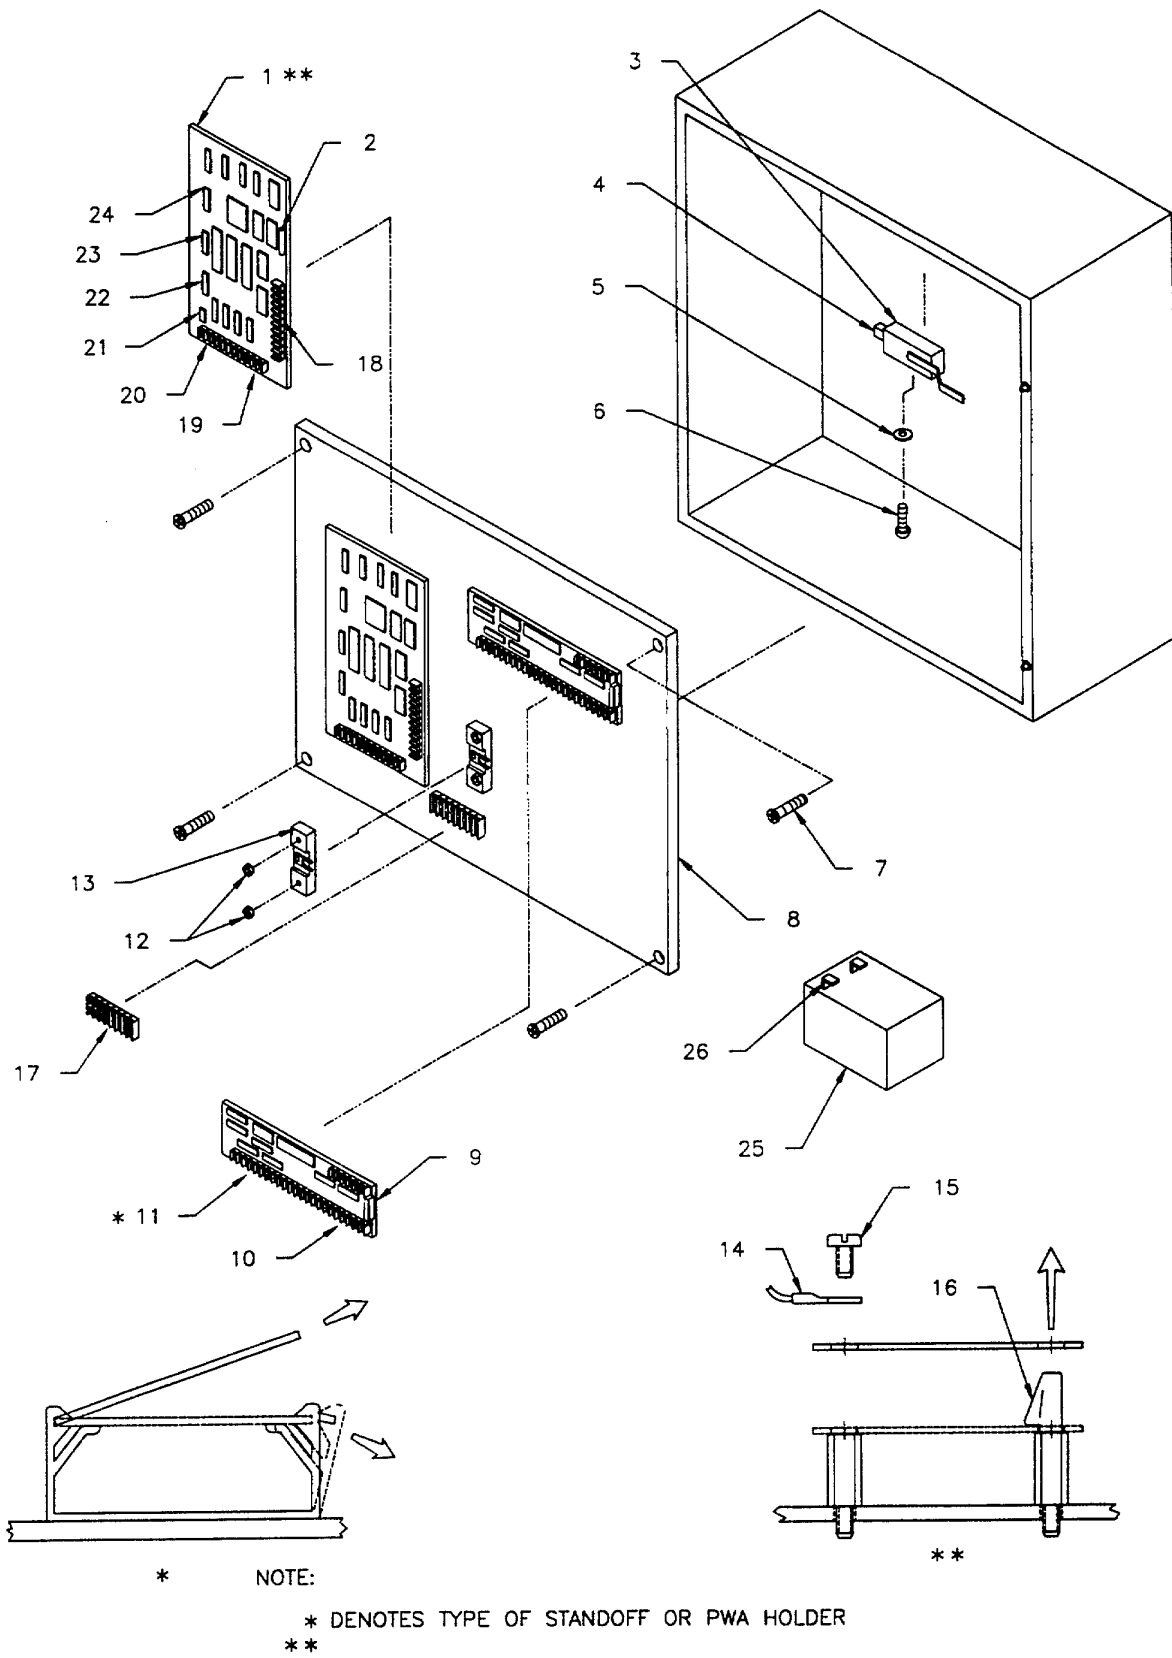

Figure 3-40. Removal and Replacement RADC, 12 VDC, 8 Points, Interior Assemblies
- (1) Set the Link Setting and/or Switch Setting exactly the same as removed assembly or refer to Appendix E, page E-52, PWA settings.
- (2) Press out on sides of snap track PWA holder (e) and install Mod 2 Modem (9) in snap track alignment slots and release.
- (3) Connect the tagged wires to J1 (11) and J2 (10).
- (4) Connect AC adapter to power source.
- (5) Connect the black wire slip-on terminal lug to 12 vdc battery (25).
- (6) Place front access cover on enclosure and secure.
**3-59. REPLACE 18 VAC ADAPTER.** (Figure 3-40 and FO-7).
- (1) Run the AC adapter wires through enclosure cable inlets and connect to TB-1 (2) pins 1 and 2 (FO-7).
- (2) Use plastic tie wraps to lace the Ac adapter input wires to panel assembly (8).
- (3) Connect AC adapter to power source.
- (4) Place front access cover on enclosure and secure.
**3-60. REPLACE 12 VDC BATTERY.** (Figure 3-40).
- (1) Place the 12 vdc battery (25) in enclosure.
- (2) Connect red and black wires slip-on terminal lugs to positive and negative terminals (26) of 12 vdc battery (25).
**3-61. REPLACE RADC ENCLOSURE TAMPER SWITCH.** (Figure 3-40).